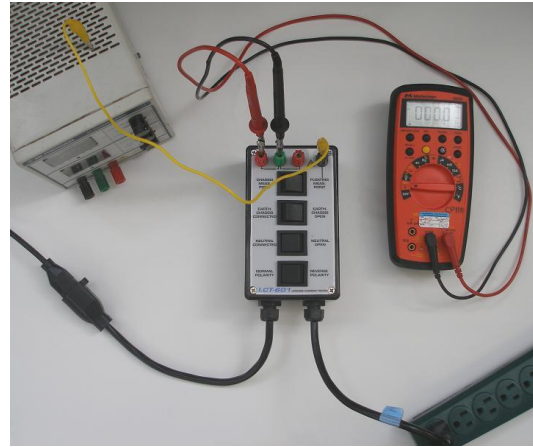

Figure 6 Chassis Leakage Current - Fixed Equipment
11. See Figure 6 and Table 6 for a Test Setup synopsis. This section is based on NFPA 99 Fig. 8.4.1.3.5.5, see below.